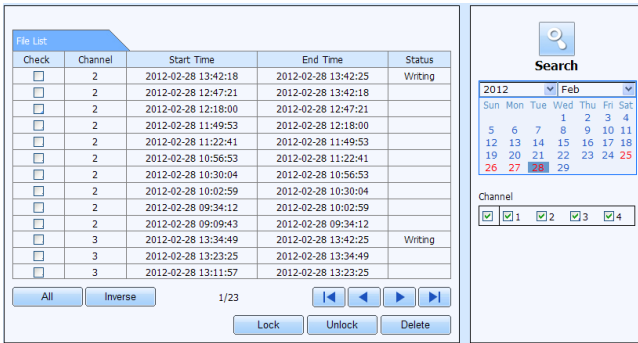

Fig 7-7 File Management Interface
- Step 1:** Enter into Search→File Management interface. Refer to Fig 7-7: